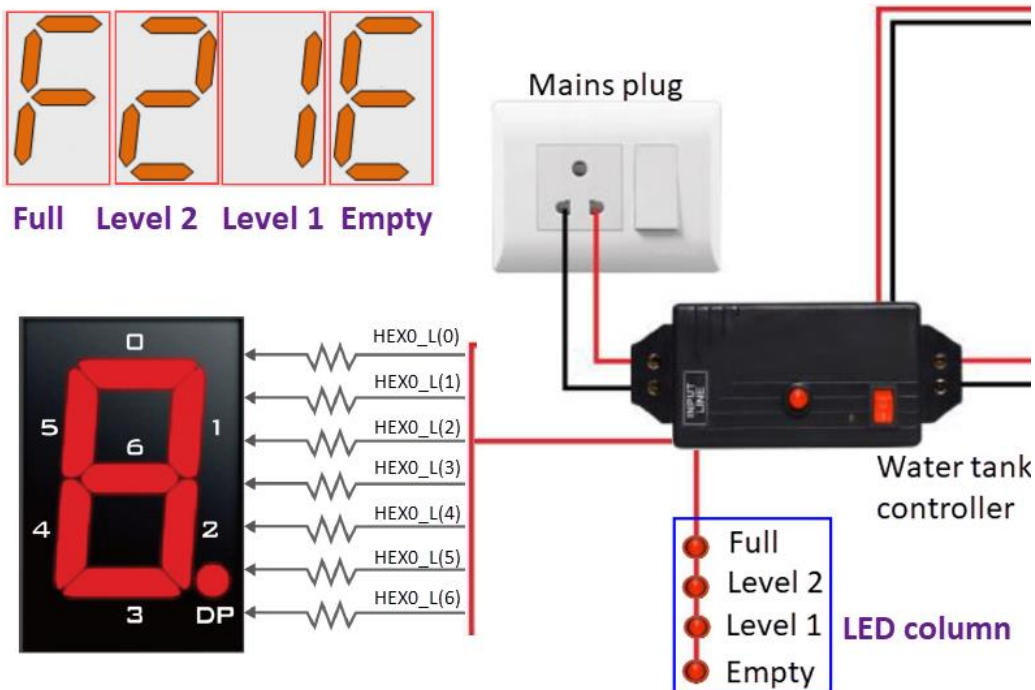

Fig. 48
- g. Additional features added to the basic prototype. The user wanted to add an extra circuit to translate the LED column code into a 7-segment display. Thus, an additional combinational circuit CC3 is required to meet this new specification. Let us solve the problem using the ROM method for implementing logic functions. The wiring in Fig. 48 shows the naming conventions for the vector $\text{HEX0}(6..0)$ common anode in the DE2-115 board user guide page 36. Discuss the size $[2^m \times n]$ of the ROM, its content and synthesise the circuit.